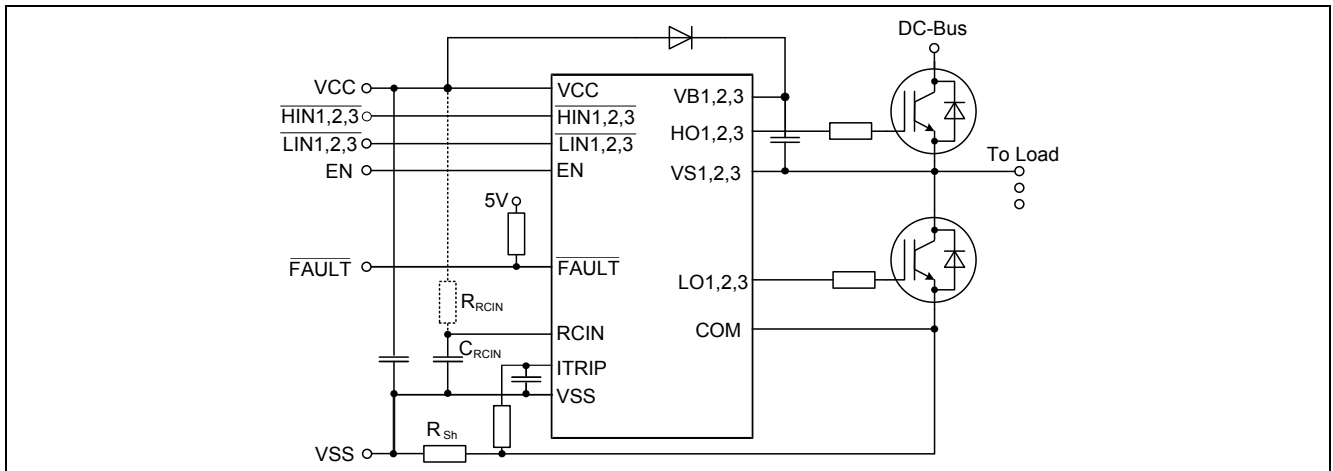

Figure 1 Typical Application
p. 8	revised Figure 1
The six independent drivers are controlled at the low-side using CMOS resp. LSTTL compatible signals, down to 3.3 V logic. The device includes an under-voltage detection unit with hysteresis characteristic and an over-current detection. The over-current level is adjusted by choosing the resistor value and the threshold level at pin ITRIP. Both error conditions (under-voltage and over-current) lead to a definite shut down of all six switches. An error signal is provided at the FAULT open drain output pin. The blocking time after over-current can be adjusted with an RC-network at pin RCIN. The input RCIN owns an internal current source of 2.8  $\mu$ A. Therefore, the resistor  $R_{RCIN}$  is optional. The typical output current can be given with 165 mA for pull-up and 375 mA for pull down. Because of system safety reasons a 310 ns interlocking time has been realised. The function of input EN can optionally be extended with an over-temperature detection, using an external NTC-resistor (see Fig.1).